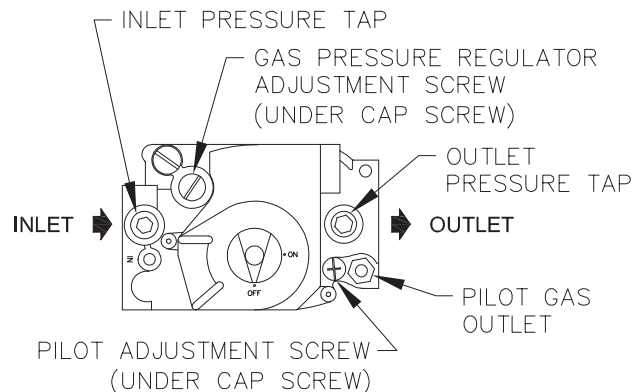

Figure 7.2: Valve Tapping and Adjustment Screw Locations
2. To adjust gas pressure, turn adjusting screw of gas pressure regulator counterclockwise to decrease pressure, clockwise to increase pressure. Refer to Figure 7.2 for location of gas pressure regulator. Replace the cap screw when adjustment is complete.